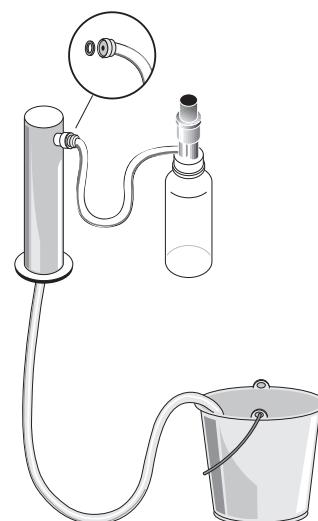

fig. 3
6. Attach hose from pump bottle to beer column tap outlet (be sure rubber gasket is in place to prevent leakage) - allow tap to drain in bucket (fig. 3).